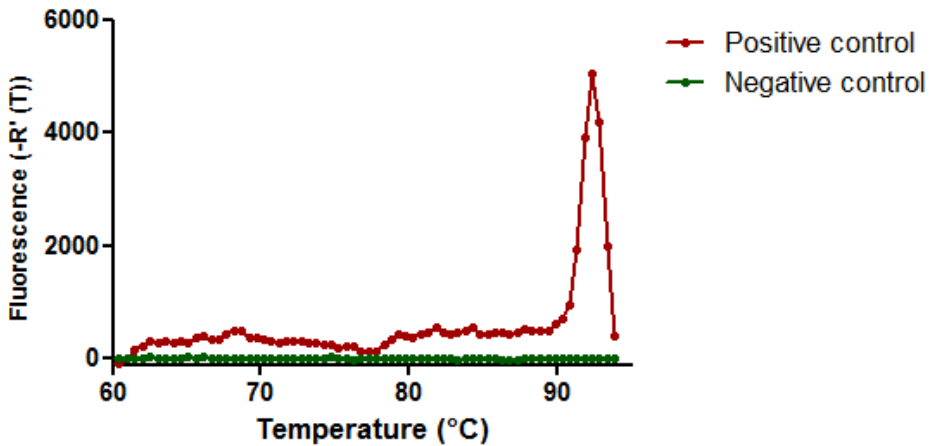

Fig. 3 The melting curve during the LAMP reaction.
** Additionally, the melting curve measurement can be set up to ensure that there are no nonspecific products after the LAMP reaction. Melting curve analysis is based on gradually raising the temperature of the mixture by 0.5 °C and measuring the fluorescence until DNA denaturation. Once the melting point of the product has been reached it is followed by a very rapid denaturation and a sharp decline in fluorescence. If there is only one specific product there is one peak because each strand of DNA has only one characteristic melting point (fig. 3).